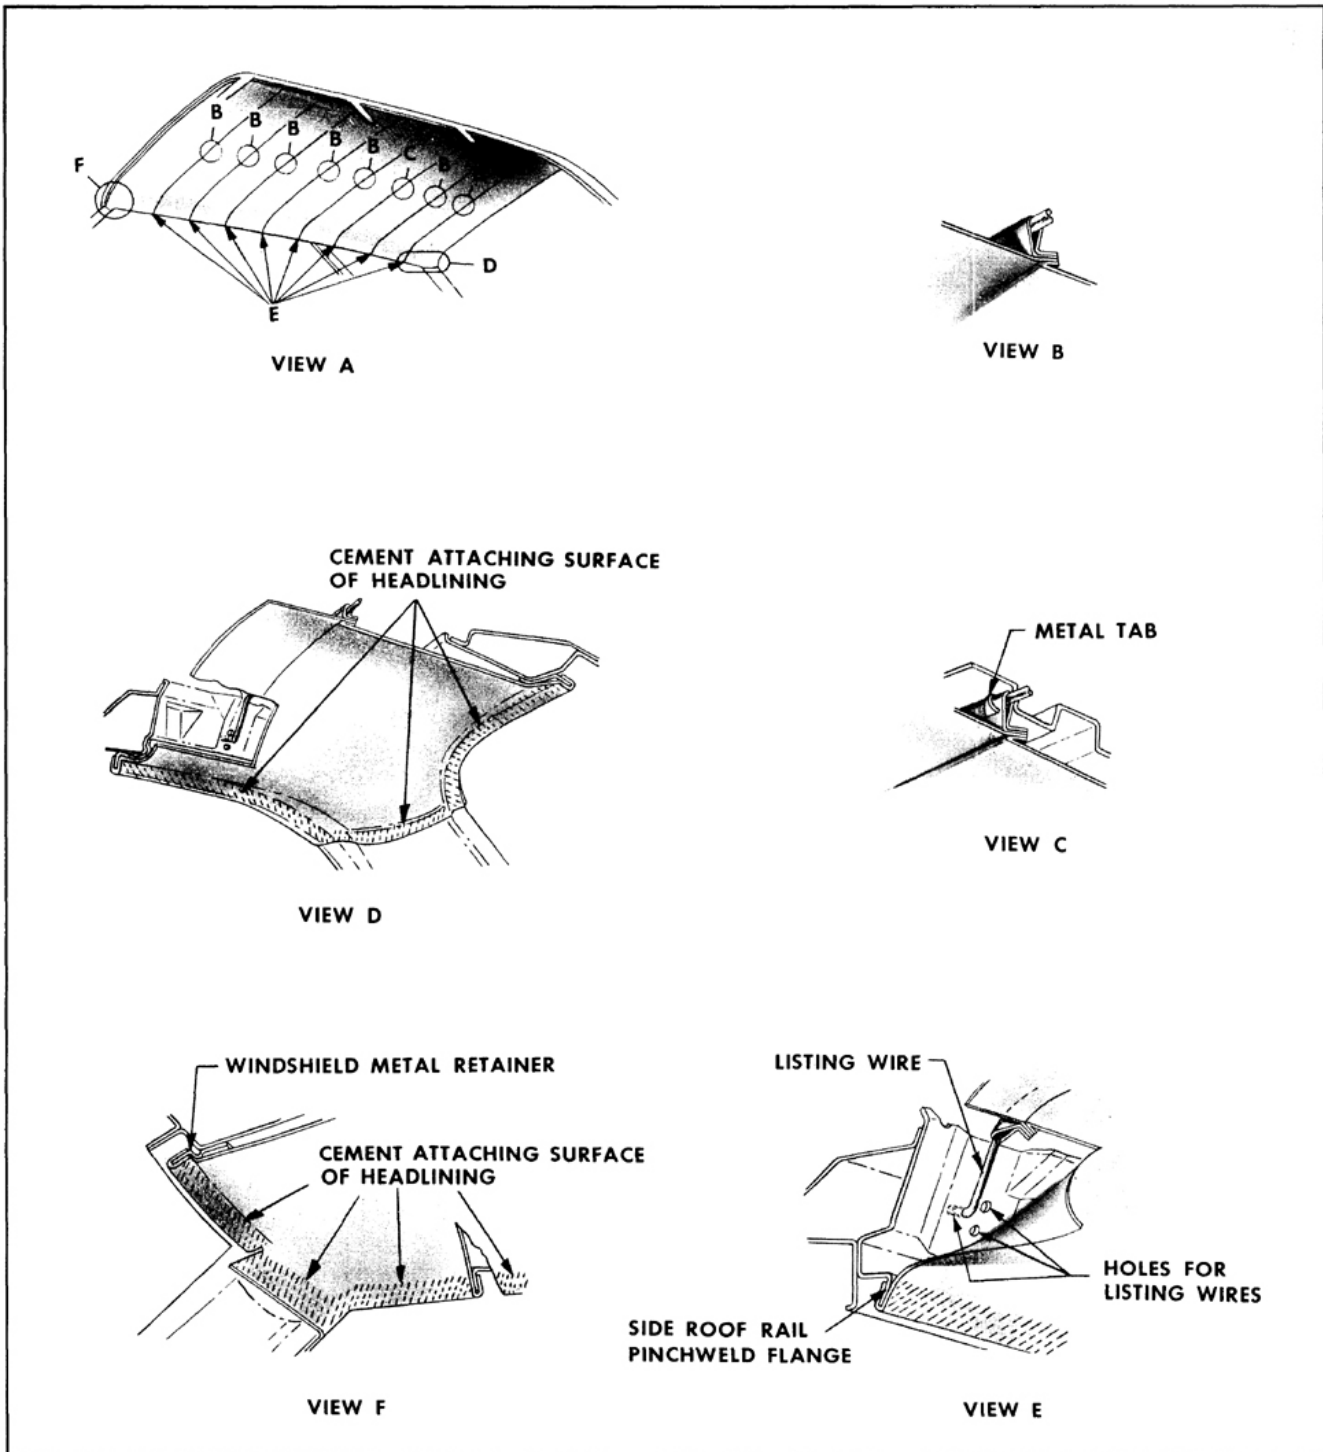

Fig. 16-379 Headlining Installation (35 Styles)
pockets. (View "C", Fig. 16-378 and Fig. 16-379) Remove listing wires and pocket from support. (View "H", Fig. 16-378)
13. Using a headlining inserting tool, install trimmed edges of headlining to outer surfaces of side roof inner rail and at windshield and back window retainers to give headlining a finished appearance. (Views "D", "E", and "F", Fig. 16-378 and Views "D", "E" and "F", Fig. 16-379)